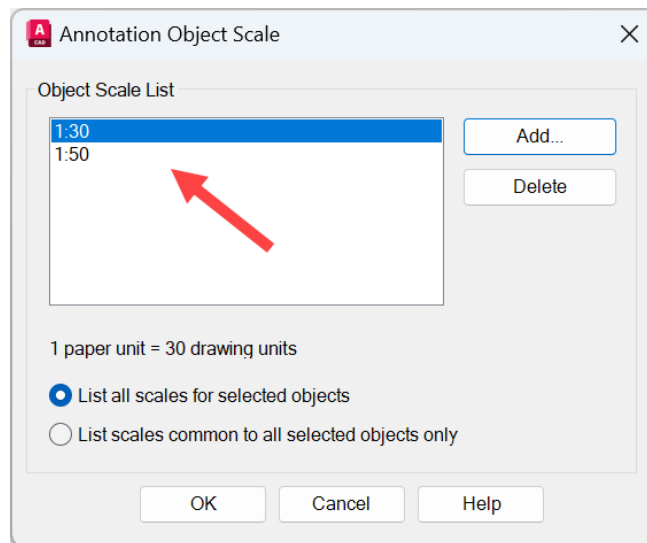

Figure 8.32: The Annotation Object Scale dialog box with two scales applied
7. You can now see that two annotation scales are applied to your annotative text object, as shown in *Figure 8.32*: